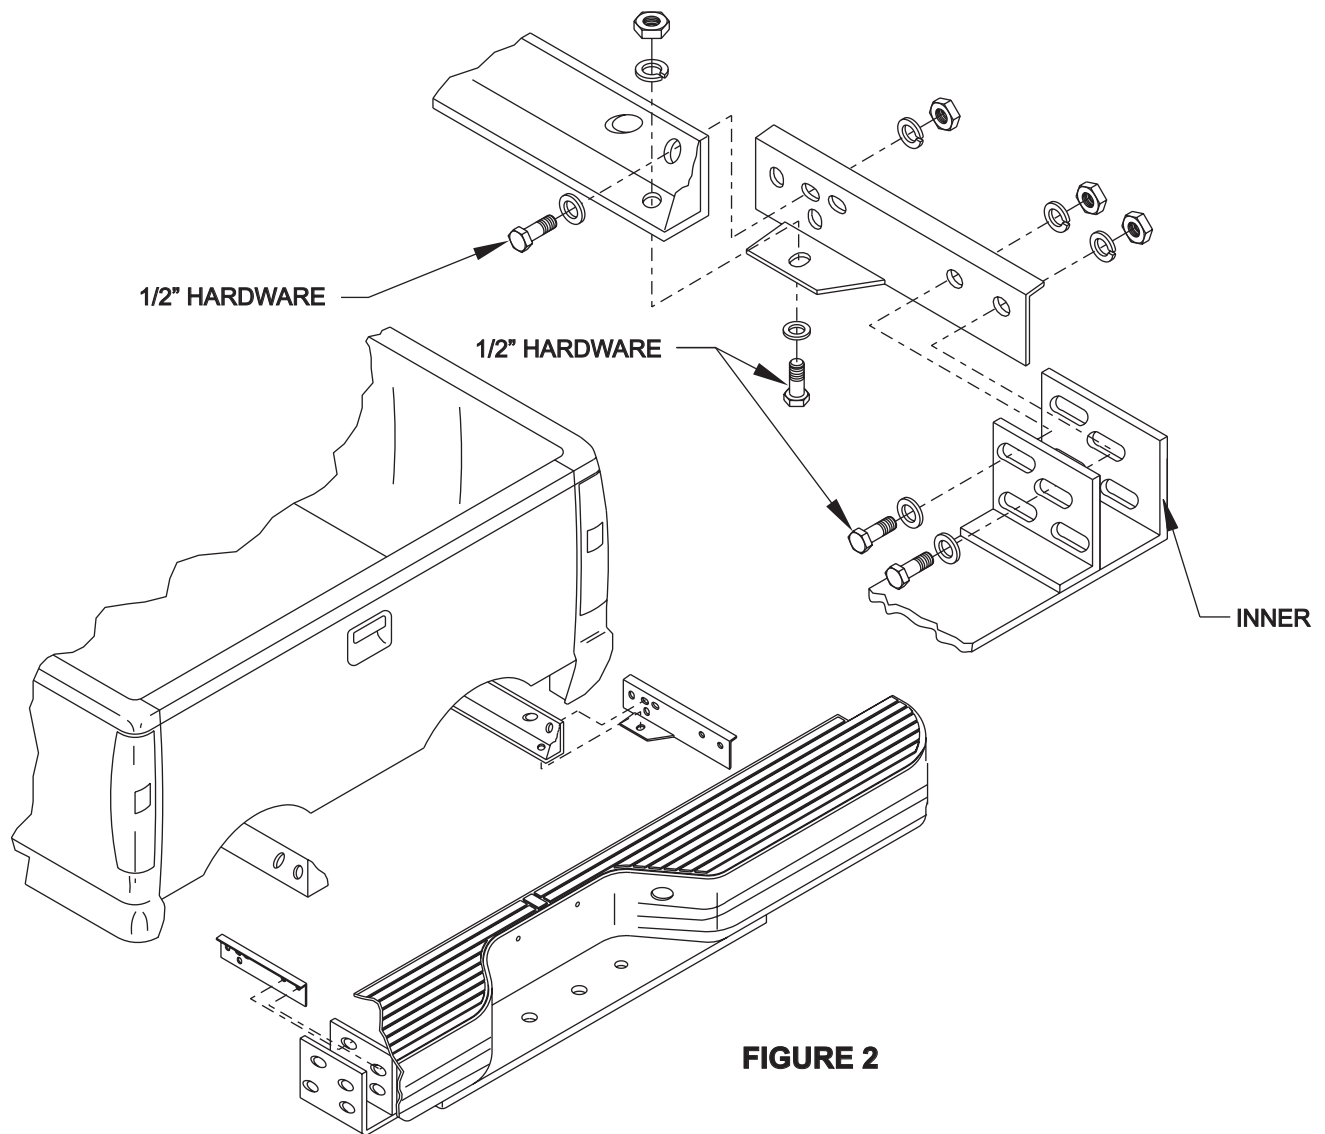

FIGURE 2
- STEP 1: USING 1/2 INCH HARDWARE, LOOSELY INSTALL MOUNTING BRACKET ON THE OUTSIDE OF TRUCK FRAME RAILS. (SEE FIGURE 2). DO NOT TIGHTEN MOUNTING HARDWARE.
- STEP 2: USING INNER HITCH VERTICALS, INSTALL BUMPER ONTO MOUNTING BRACKETS OUTSIDE OF BUMPER HITCH. (SEE FIGURE 2). USE REMAINING 1/2 INCH HARDWARE. DO NOT TIGHTEN.